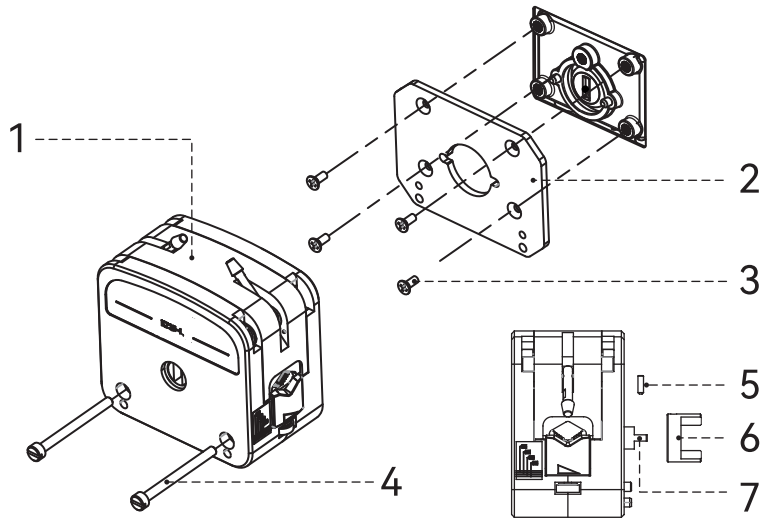

Figure 2 Installation Diagram of KZ25-L Pump Head
- Remove the coupling between the driver coupling and the pump head, and secure it to the flat shaft end of the pump head with a set screw (provided with the coupling) as shown in Figure 2, and secure it firmly.